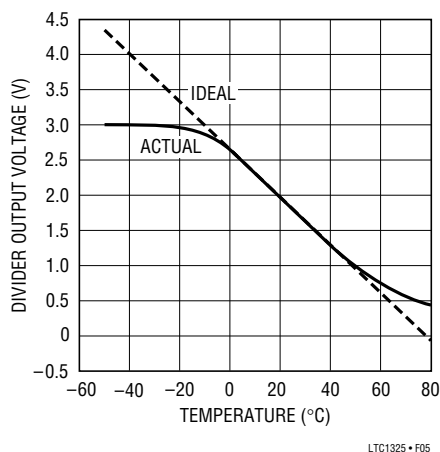

Figure 5. ERT-D2FHL103S Divider
Both values of β are close to each other. Substituting $\beta = 4085\text{k}$ into equation (3) gives $R_L = 10\text{k} [4085 - (2 \times 298)]/[4085 + (2 \times 298)] = 7.45\text{k}$. The nearest 1% resistor value is 7.5k. Figure 5 shows a plot of $V_{DIV}(T)$ measured at various temperatures for this thermistor with a 7.5k R_L .
Note that the discharge limits are wider than the charge limits. To prolong battery life, manufacturers generally recommend discharge temperatures that are similar to the charge limits. For this reason, the LTC1325 recognizes the same LTF and HTF limits in both charge and discharge modes. MCV should be set just above the charging voltage per cell given in battery specifications. The voltage at the LTF and HTF pins should be set to correspond to narrowest temperature range. These are typically 15°C and 45°C. The corresponding voltages may be read from the thermistor divider temperature curve such as that shown in Figure 5. For this thermistor, it works out to be about for 2.12V for LTF and for 1.13V for HTF. The MCV may be conveniently tied to LTF since MCV is typically 2V. If desired, external analog switches under microprocessor control may be used to vary the LTF, HTF and MCV voltages between modes or for different charge rates. The values of R1, R2, R3 and R4 in Figure 3 can be calculated from the following equations: